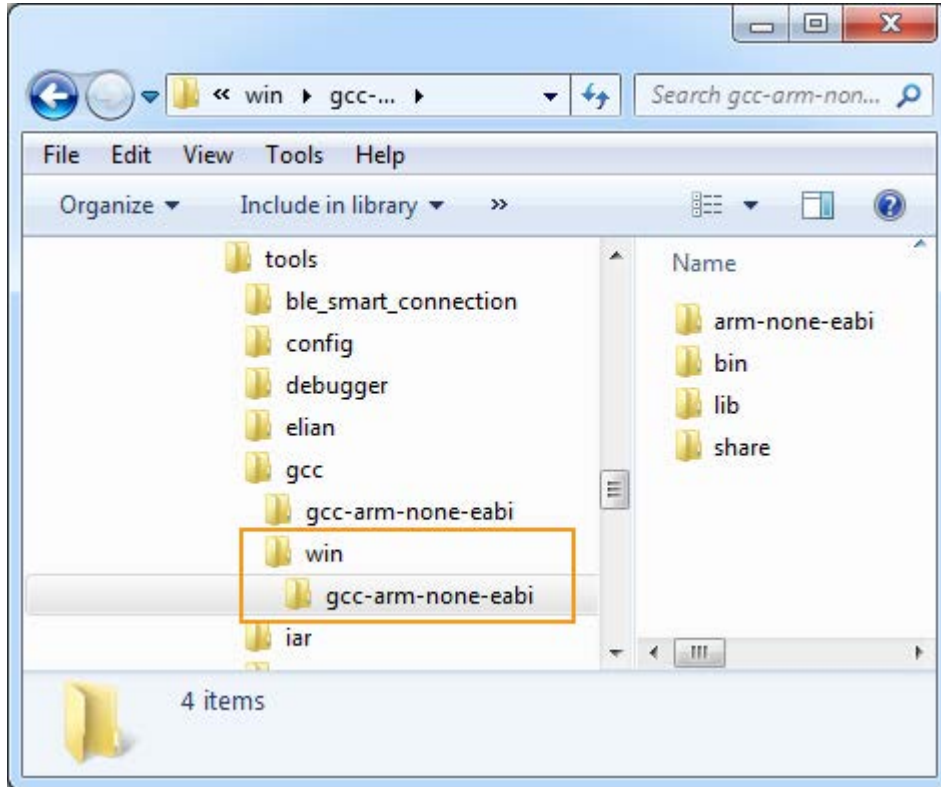

Figure 9. tools/gcc folder structure
- c) Rename the unzipped `gcc-arm-none-eabi-4_8-2014q3-20140805-win32` folder to `gcc-arm-none-eabi`, as shown in Figure 9.